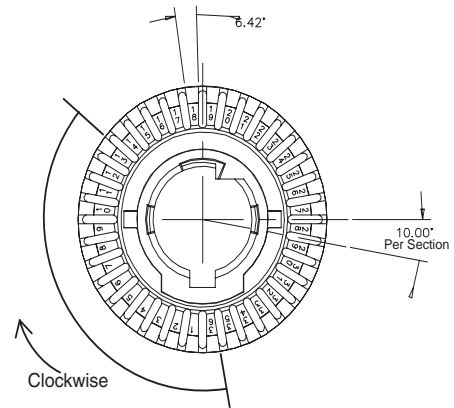

Figure 6
1. Determine which breakaway cam sections need to be removed using the chart below. In order to assure that switch deactivation occurs, at least three sections must be removed from the breakaway switch cam. (**Please Note:** The sections should be removed in a **clockwise** fashion, starting with the first number and ending with the second, see Figure 6). Utilizing the timing chart on the back, determine if the switch arm should be riding on the cam [actuated] or not [relaxed].